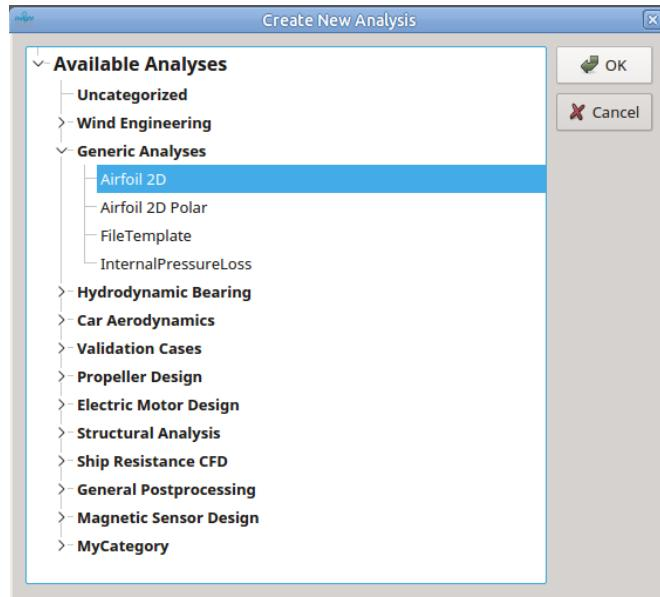

Figure 6: Dialog for selection of the type of a new analysis
**Creating a New Analysis** A new analysis is created by selecting in the menu **Analysis** **New...**. Then a new dialog appears, in which the list of available analyses is displayed (figure 6). The required analysis should be selected and confirmed by clicking "Ok".